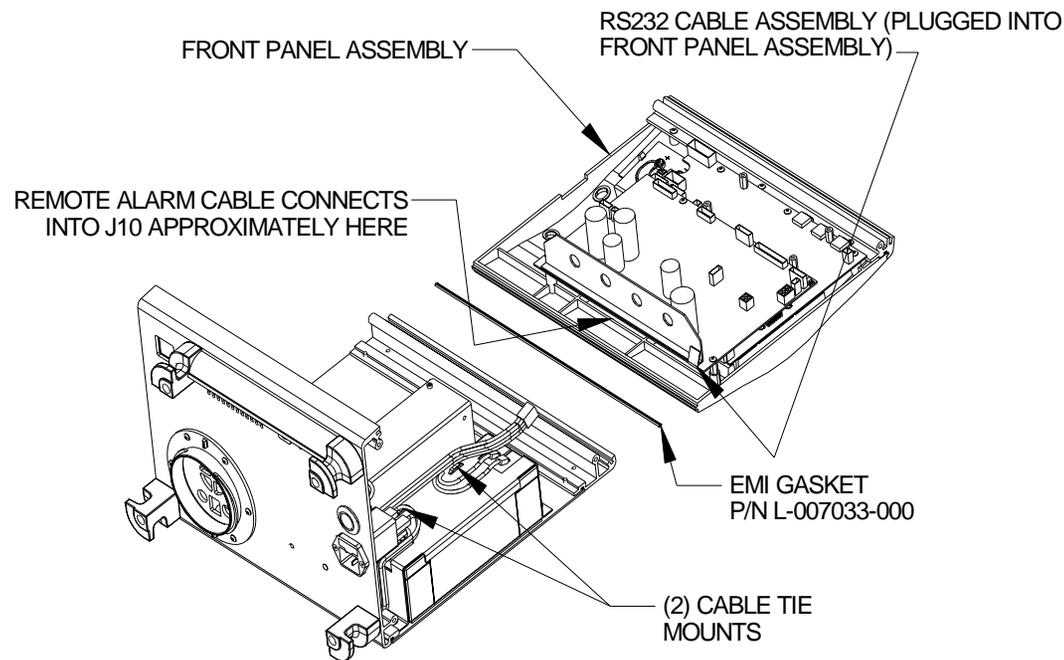

FIGURE 5-5.
2. Lay the front panel assembly down next to the front extrusion as shown in Figure 5-5.
3. Connect the remote alarm cable to J10, located towards the middle of the bottom edge of the logic board. See Figure 5-5.
4. Connect the RS232 ribbon cable to J31, located on the right side of the bottom edge of the logic board. See Figure 5-5.